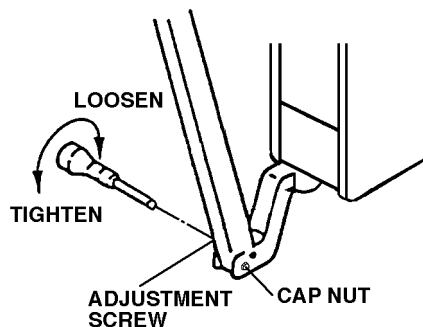

Fig.9-4 Adjustment of Assistant Side Balance Arm Balance Friction
5. Adjustment of Assistant Side Balance Arm Balance Friction (**Fig.9-4**)